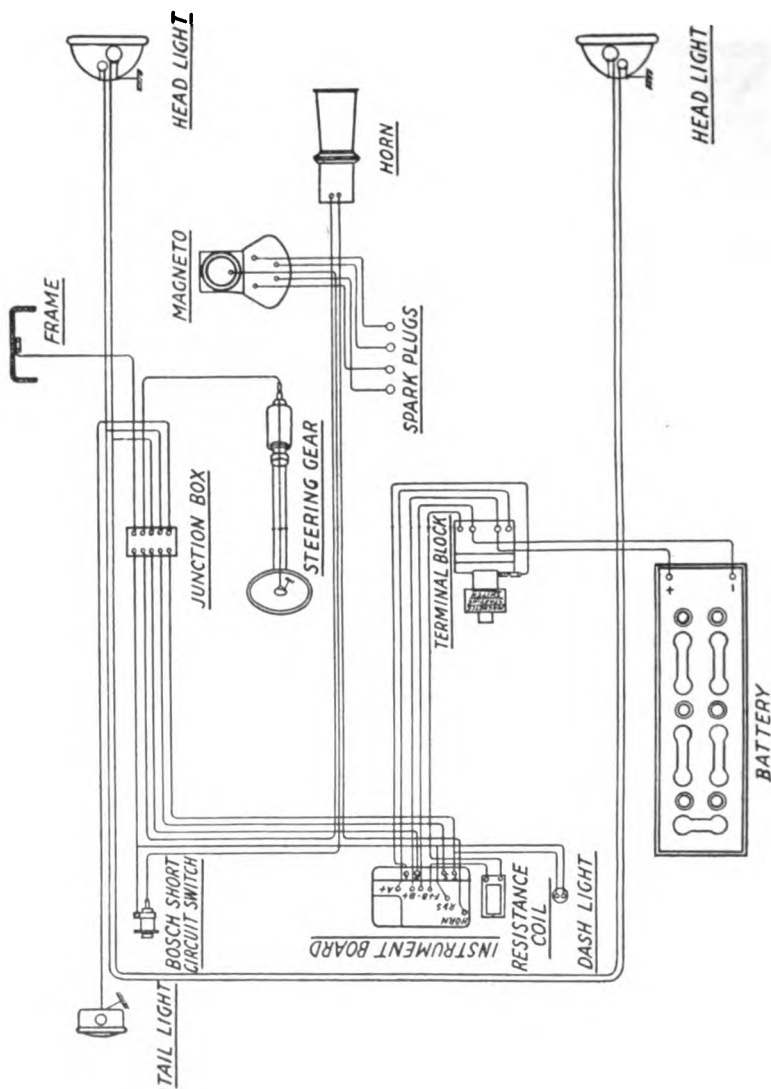

Fig. 338. Wiring Diagram of U.S.L. System on 1917 Mercer Cars
U.S.L. 12-Volt System. The U.S.L. 12-volt system generates and starts at 12 volts and is standard on the 1916 and 1917 models of the Mercer, Fig. 338. It differs from the other systems in having a magnetically operated starting switch and a centralized control unit, which incorporates all the controlling devices of the entire system, the cut-out, the ammeter, fuse blocks for generator and lighting circuits, starting switch, touring switch, head, side, and tail-light switches, all of which are operated by push buttons. All of these switch buttons, as well as the fuses, are locked in place, while the buttons may be locked in any desired combination of positions.